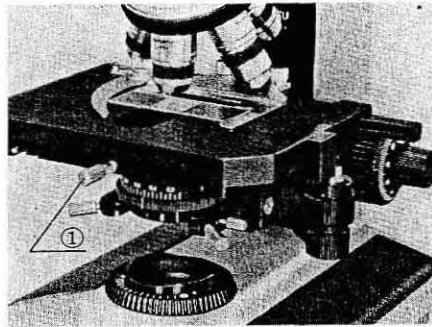

Fig. 9
3) Bring the portion of the specimen to be observed into the light path by means of the low drive stage control knobs. (Fig. 9)